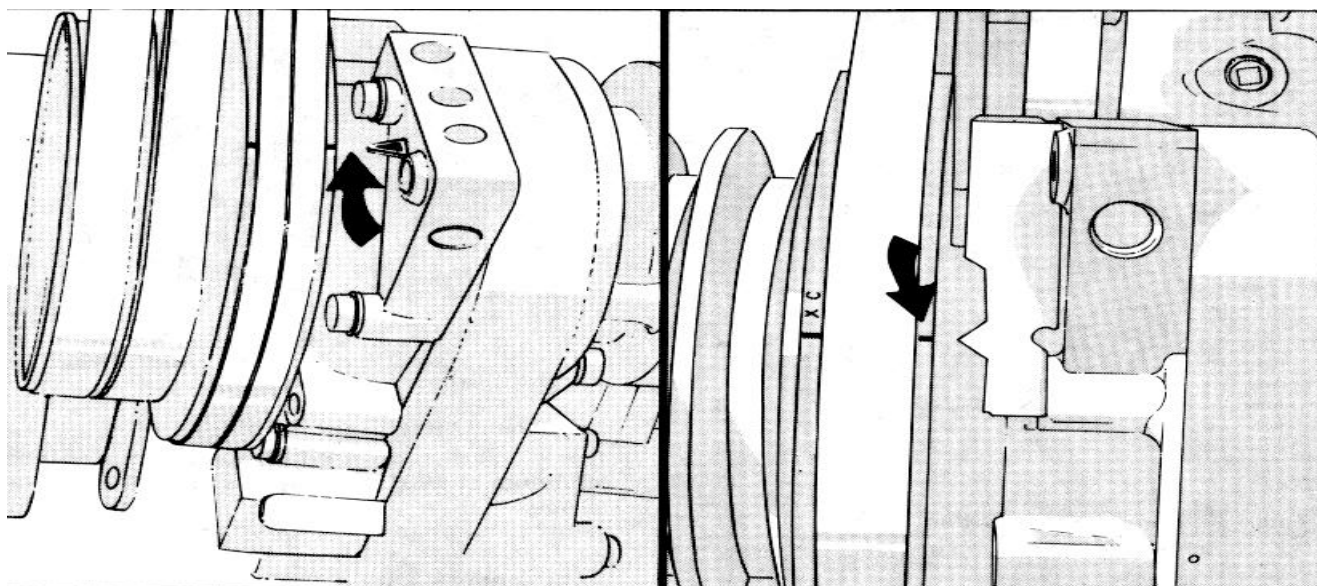
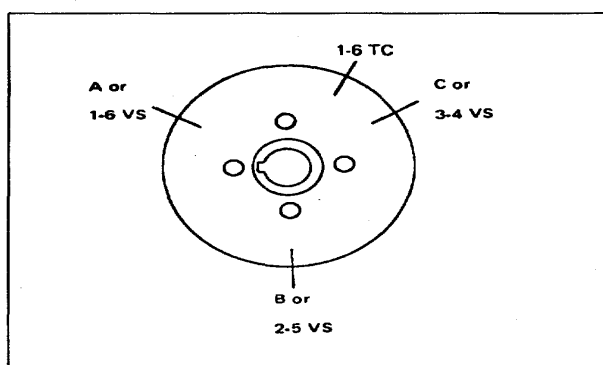

Fig. 14-70 (OM1050L). Align The Timing Marks With Pointer On The Gear Cover.
Fig. 14-71 (N114230). The Timing Marks On The Accessory
on the accessory drive pulley with the pointer on the gear cover, Fig. 14-70 and Fig. 14-71.
1. Rotate the crankshaft in the direction of engine rotation. Align the mark on the pulley with the pointer on the gear cover. Check both cylinders indicated on the pulley (Fig. 14-71) to see which valve rocker levers are loose. Adjust the injector of the cylinder in which the rocker levers are loose.